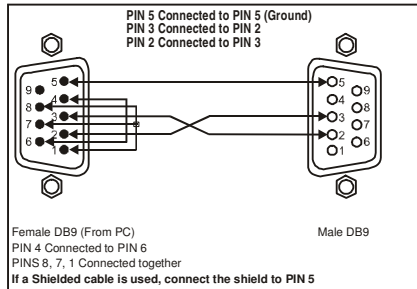

Figure 3: Connecting a PC without using a Null-modem Adapter
- Connect the RS-232 DB9 port on your PC to the RS-232 DB9 rear panel port on the Master **VS-81DVI-R** unit, as Figure 3 illustrates